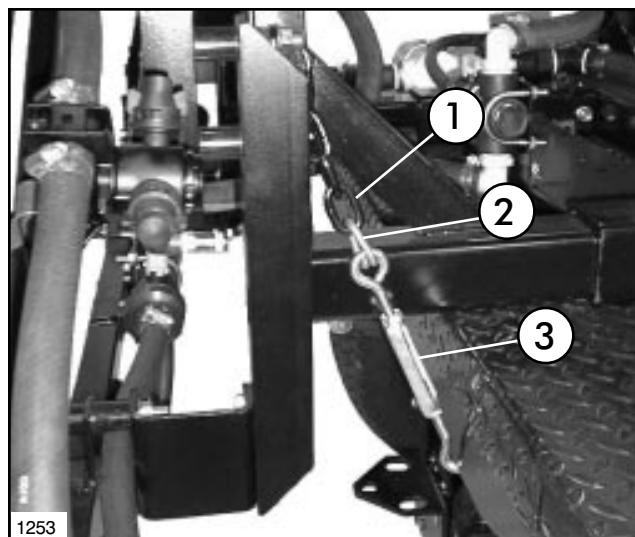

FIG. 17
**28.** Connect closed end of Turnbuckle to the Lug & Chain using (1) Lap Link. Secure by squeezing Lap Link closed. See FIG. 17.